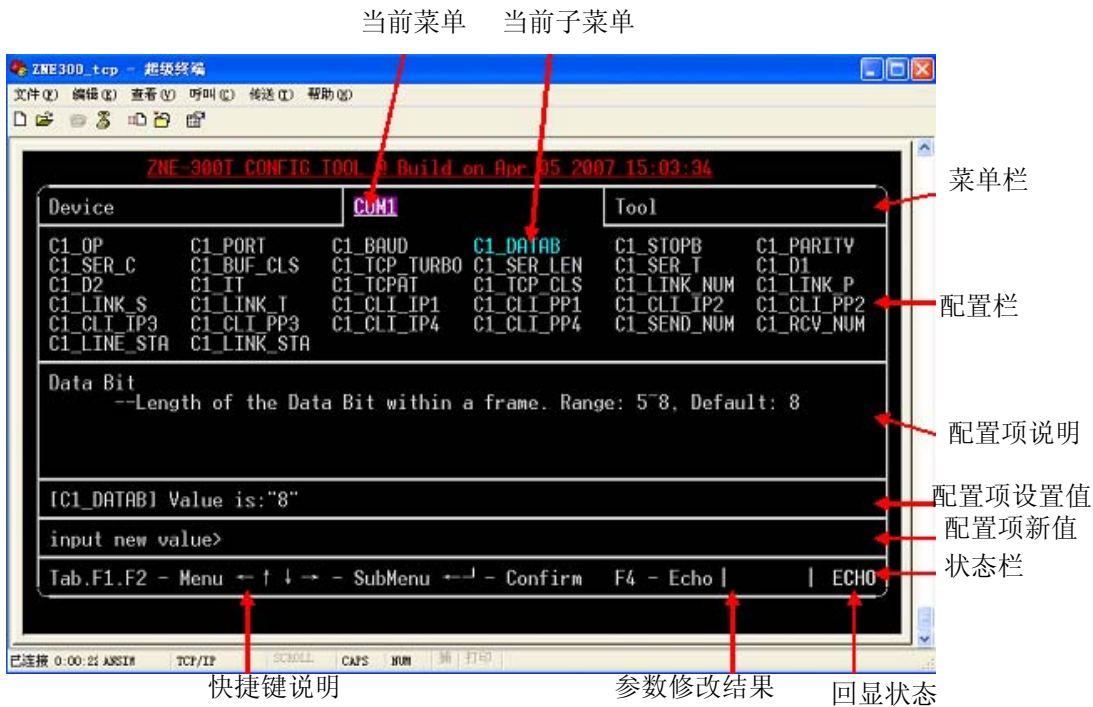

Figure 6-8: Operation interface of the Menu mode
Figure 6-8 shows the operation interface of Menu mode, in which user can use different shortcut keys to check and modify all the module parameters. AT command mode provides a standard AT command interface for users, and it is mainly used for the configurations that controlled by embedded devices (such as MCU) or user software.
Menu mode provides a simple, direct, convenient and easy-to-use configuration mode in the Windows Hyper Terminal software. Its operation interface is shown in Figure 6-8. User can use different shortcut keys to check and modify all the module parameters in this mode. Additionally, it is the default setting after the module is powered up. User can refer the 6.3.4.1 section for the detail information about the switch of the configuration mode (AT+MODE).
Figure 6-8 shows the operation interface of the Menu mode.
- Menu Bar: contains the settings of the common information, serial port information, and etc.; the reversed color part of it indicates the current selected menu option. As Figure 6-8 shows, the current Menu on the figure is COM1, so all configuration items about COM1 will be listed out on the Configuration item lists.
selected menu; the reversed color part of it indicates the current selected configuration item. As Figure 6-8 shows, the current selected item on the figure is “C1_DATAB”, which represents the configuration of data bit for serial port 1; the name of the configuration option is corresponding to the AT command; please refer the specification of AT command for more detail information about the range and meaning of the parameters.